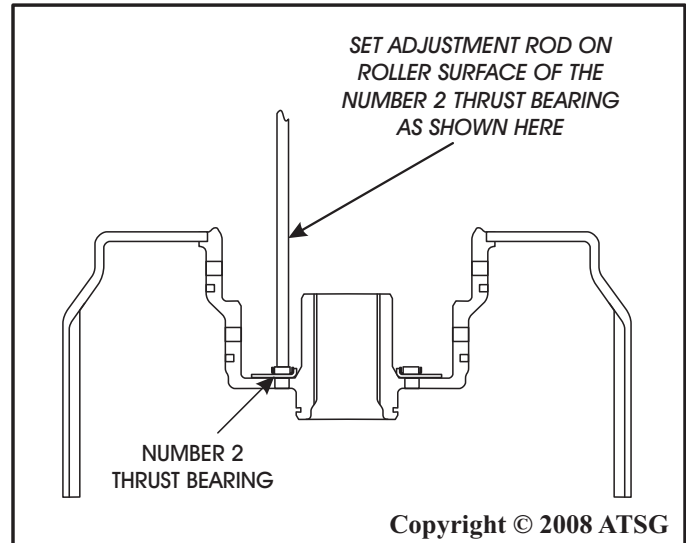

Figure 207
56. Set the adjustment rod on the roller surface of the installed number 2 thrust bearing, as shown in Figure 207, and tighten the adjustment rod locking knob.
57. Adjustment rod **must** be on the roller surface of the bearing, as shown in Figure 207.